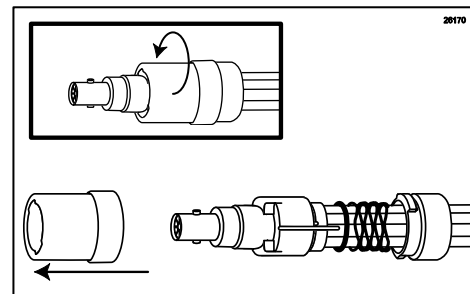

Figure 54
3. Remove the Coupler Body by rotating and unlocking it from the Coupler Base. (See Figure 54.)